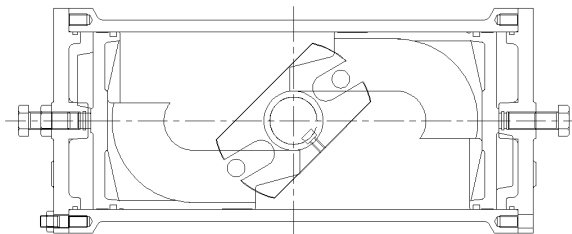

Fig 1 Scotch Yoke Type
- A) The Honeywell pneumatic cylinder actuator is Canted Scotch Yoke type. (See Fig 1)